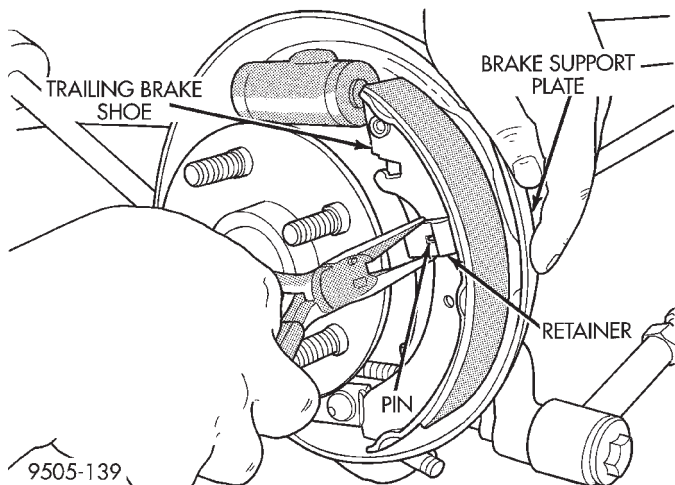

Fig. 68 Trailing Brake Shoe To Support Plate Retainer
(11) Remove the brake shoe retainer and pin, (Fig. 68) from the trailing brake shoe.
CAUTION: The leading and trailing brake shoes used on the rear brakes of this vehicle are unique (handed) for the left and right side of the vehicle. Care must be taken to ensure the brake shoes are properly installed on the vehicle. When the trailing brake shoes are properly installed on the correct side of the vehicle, the park brake actuating lever will be positioned behind the brake shoe web (Fig. 68).
(3) Install the correctly handed trailing brake shoe on the support plate so it is squarely seated on the shoe contact areas. Then install the brake retainer on the retainer pin (Fig. 68).